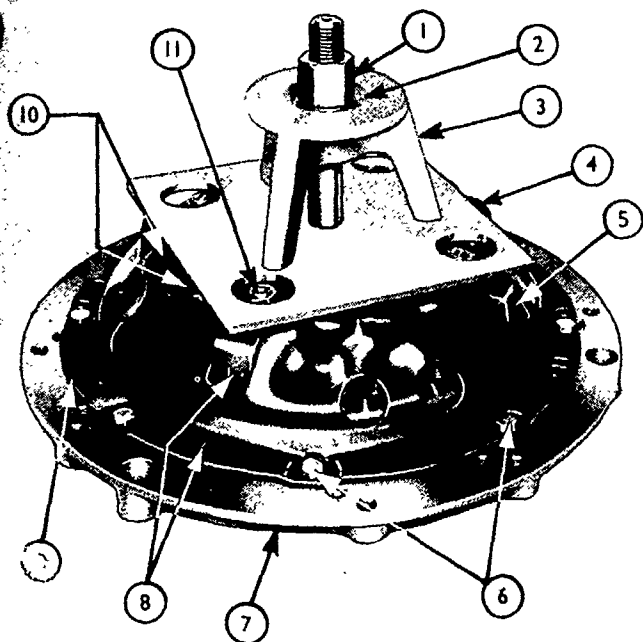
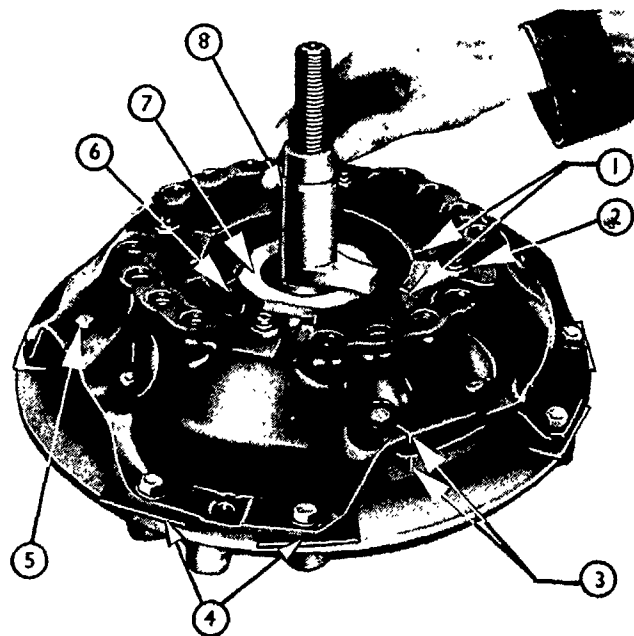
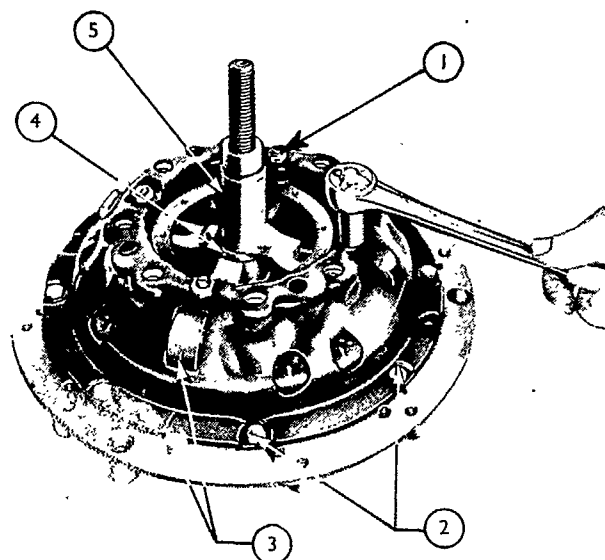

Figure 30
Figure 31
Figure 37
4. Place the assembled clutch pressure plate and cover assembly on the fixture base. Install the adapter plate, the bridge, the thrust washer, and the spindle nut as shown in Figure 30. Relieve the spring tension on the release levers by tightening the spindle nut until the clutch cover is drawn to the fixture base. During disassembly it will not be necessary to install the clutch cover-to-flywheel bolts, although they are shown installed. To prevent distorting the top of the clutch cover, do not overtighten the spindle nut.
5. Remove the four release lever eyebolt nuts, Figure 30, after first "cleaning" the staked portion of the nuts from the slot in each eyebolt. Failure to "clean" the slots may result in stripped threads. On the 12 in. (30.5 cm.) and 13 in. (33 cm.) clutch, it will be necessary to remove the drive strap locking ferrule bolts, shown in Figure 31, in addition to removing the eyebolt nuts. Remove the locking ferrule bolts before removing the eyebolt nuts.
6. Separate the clutch cover from the pressure plate by removing the spindle nut, the thrust washer, the bridge, and the adapter plate, Figure 30.
3. Place the assembled clutch pressure plate on the Fixture Base, Tool No. SW510-60, then position the clutch pressure release springs on the bosses of the plate. Position the clutch cover over the eyebolts and springs so the eyebolts pass through the holes in the cover and so the springs are seated in the "cups" of the cover, Figure 30. Check the anti-rattle springs, Figure 31, to see that they are seated against the release levers.
4. Rotate the assembly on the fixture base until the bolt holes in the clutch cover are in line with the mating holes in the fixture base, then drop the clutch cover-to-flywheel bolts, Figure 30, into place. The bolts are to be used as guides during this stage of assembly and need not be tightened. On the 12 in. (30.5 cm.) and 13 in. (33 cm.) clutches, it will be necessary to install one Shim Spacer, Tool No. SW510-67D under the clutch cover at the location of each clutch cover-to-flywheel bolt, as shown in Figure 31, before dropping the bolts into place. The drive strap locking ferrules as well as the ferrule bolts should also be installed, but not tightened.
5. Install the adapter plate, the bridge, the thrust washer, and the spindle nut, as shown in Figure 30. Slowly draw the clutch cover down over the pressure plate by tightening the spindle nut until the cover contacts the fixture base. Exercise care to prevent the lugs on the pressure plate, Figure 30, from catching on the cover. To prevent distorting the top of the clutch cover, do not overtighten the spindle nut.
6. After the clutch cover has made contact with the fixture base, complete the installation of the clutch cover-to-flywheel bolts, Figure 30, by torquing the bolts equally in a diagonally staggered manner. On the 12 in. (30.5 cm.) and 13 in. (33 cm.) clutches, torque the drive strap locking ferrule bolts, Figure 31, in the same manner. See Specifications Section, Chapter 4, for torque values.
7. After torquing the bolts, remove the spindle nut, the thrust washer, and the bridge, Figure 30. Install the applicable gauge spacer (see following listing) and the release lever gauge as shown in Figure 37. Install the gauge spacer so the identifying number is "up".
8. Install the release lever eyebolt nuts, Figure 37. Raise the release levers by adjusting each eyebolt nut until a slight drag can be felt when the "foot" of the release lever gauge is rotated across the levers. Apply light pressure to the gauge to obtain an equal "feel" on each lever. When adjusting the 13 in. (33 cm.) clutch, be sure that the release lever plate, Figure 31, is attached to the release levers as shown. The "feel" on this clutch should be the same all the way around the release lever plate.
10. Remove the release lever gauge and the gauge spacer, Figure 37. Re-install the adapter plate, bridge, thrust washer, and the spindle nut as shown in Figure 30. Tighten the spindle nut fingertight, then remove the clutch cover-to-flywheel bolts. After removing the bolts, remove the clutch from the fixture by removing the spindle nut, the thrust washer, the bridge, and the adapter plate. The clutch is now ready for installation on the flywheel.